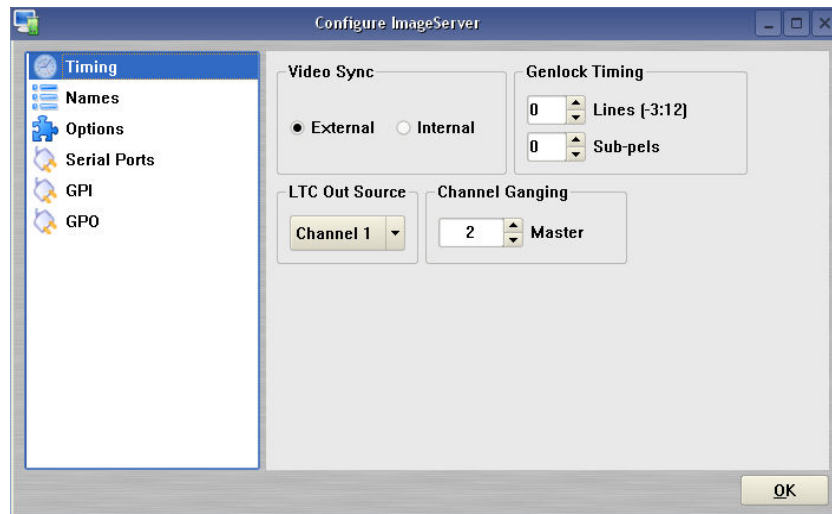

Figure 33 - Timing Configuration Screen
1. Select a Channel Ganging Master channel. This can be channel 1, 2 or 3. To configure the Channel Ganging Master Click **EDIT->CONFIGURE->TIMING** from the Main Menu. The screen of Figure 33 is displayed.